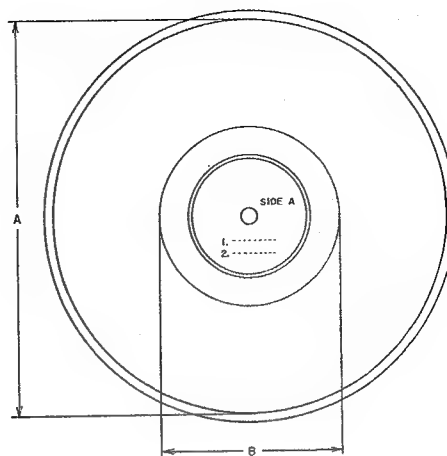

Fig. 14
**NOTE:** The range A of lead-in groove on which the stylus is to be dropped down is (refer to Fig. 14):
**NOTE:** The range B of lead-out groove on which the stylus is to be lifted up is (refer to Fig. 14):